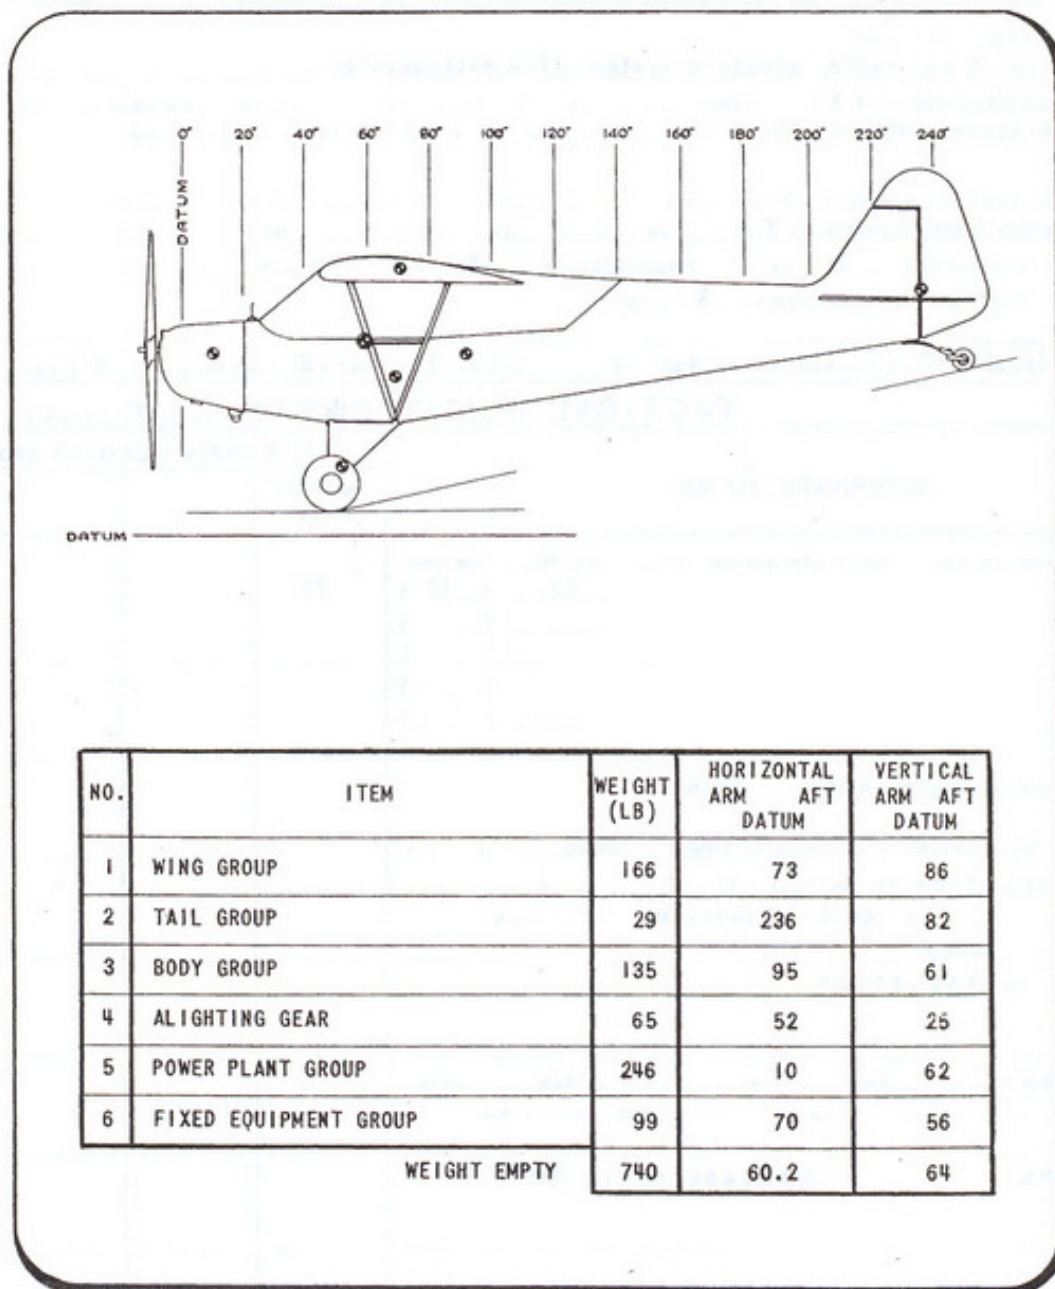

Figure 21 - Weight and Balance Diagram
1. Weight and Balance Diagram (figure 21).